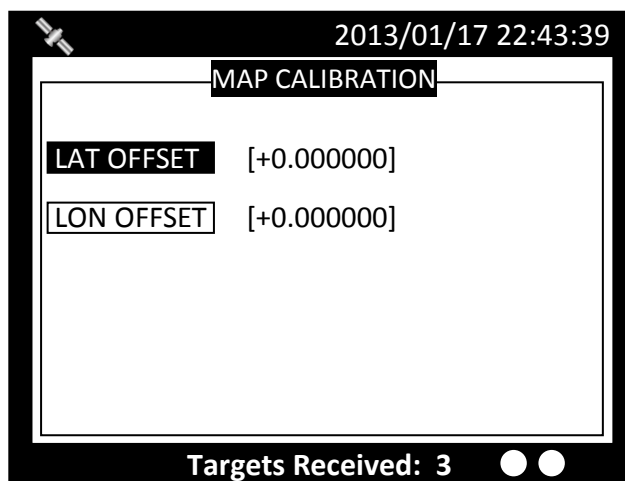

Figure 72 Map Calibration
**Sensor Configuration** provides user to set baud rates for sensor ports and USB port. Turn **knob** to select a port to modify and press **knob** to change the specified port baud rate. Turn **knob** to change the desired rate of sensor ports between 4800/9600/19200/38400. USB port can be configured to any baud rate of 4800, 9600, 19200, 38400, 57600 or 115200. Default baud rates of the ports are shown in figure 72 below.